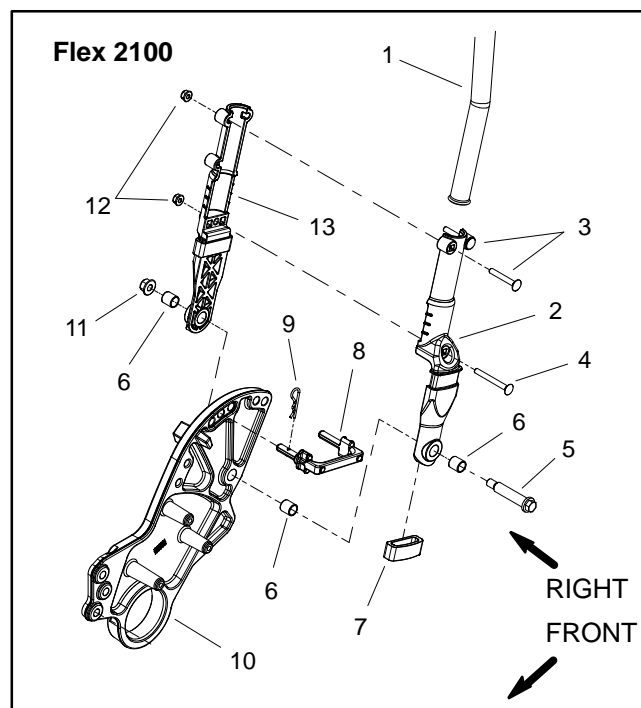
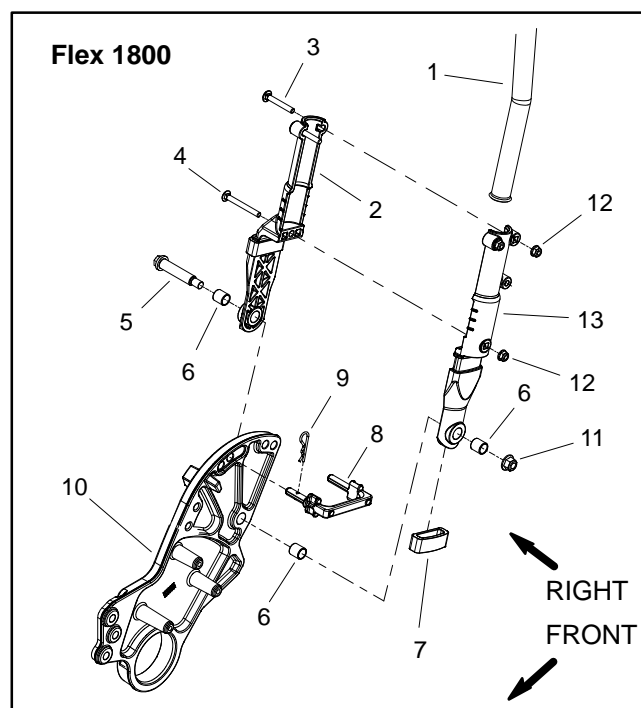

Figure 2
Figure 3
NOTE: The offset handle clamps on Flex 2100 machines are mounted on the outside of the side plates (Fig. 2). On Flex 1800 machines, the offset handle clamps are mounted on the inside of the side plates (Fig. 3).
8. Remove handle clamps from handle assembly (Fig. 2 or 3):
10. If rubber bumpers (item 7 in Fig. 2 or 3) need to be replaced, cut bumpers to remove from handle clamps. Apply soapy water to inside of new bumpers to ease installation onto clamps.
2. Fit inner handle clamps to the handle assembly and secure with removed fasteners (Fig. 2 or 3). Adjust handle height before fully tightening the fasteners.